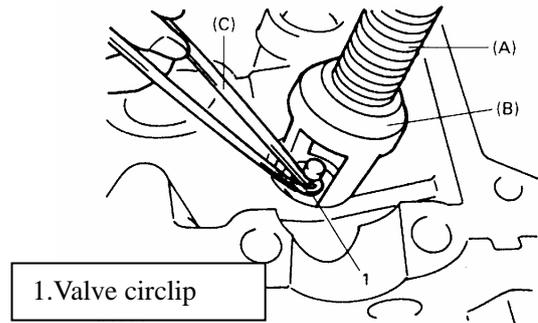

Fig. 4-124
1) Remove old cylinder head gasket, wipe off the smear on the joint surface, install a new cylinder gasket refer to Fig. 4-124. That means the “top” surface of marked on the side toward crankshaft pulley (toward cylinder cover)